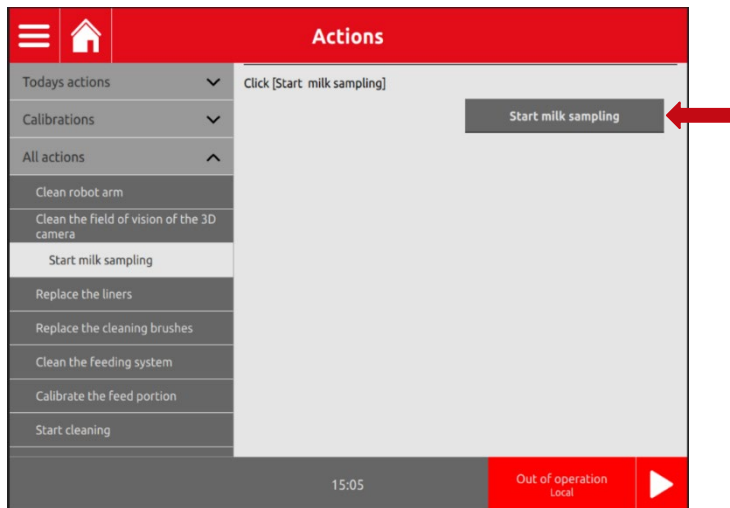

Figure 25. Menu Start milk sampling
2. Select Start milk sampling , see the figure 25